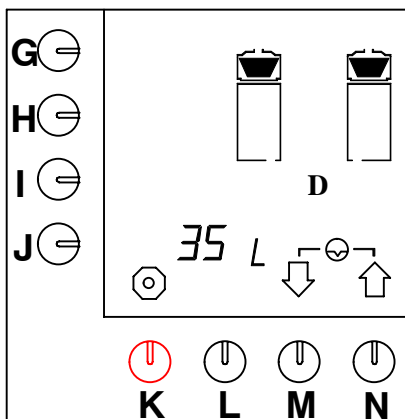

Fig. 54 Resetting day counter coffee-making system
- Press selection key (M.)↓ until fig.54 appears on the display.